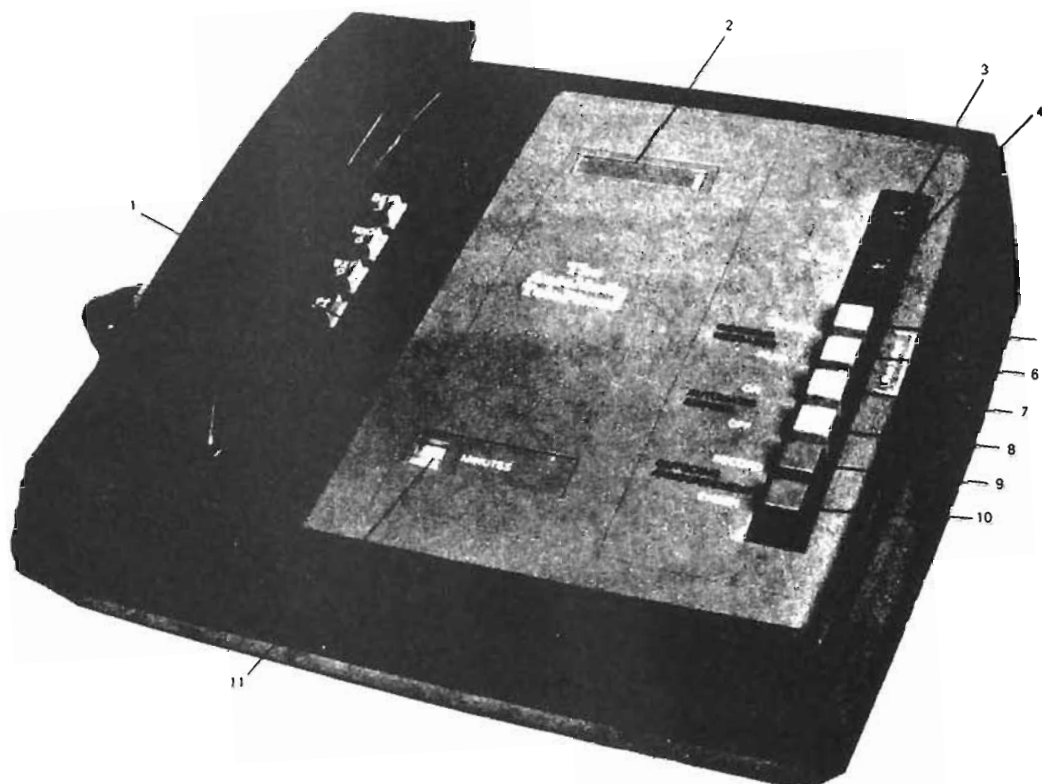

Fig. 1—Operating Controls
2.04 The operating controls and features shown in Fig. 1 and 2 are described in Table B.
(See Figs. 1 and 2)
ITEM NO. (FIG. 1)	DESCRIPTION